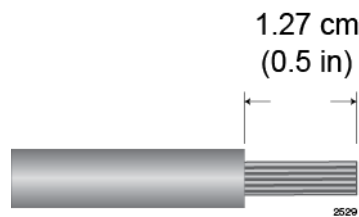

Figure 124. Stripping the Power Wires
1. Prepare adequate lengths of two stranded 8 AWG power wires by stripping them as shown in Figure 124.